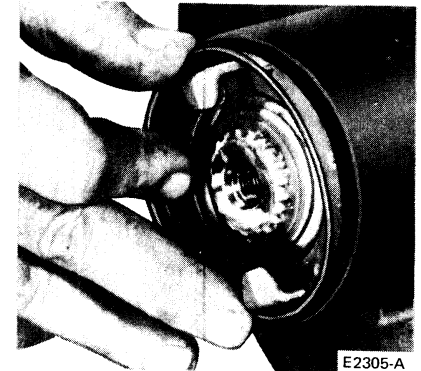

FIG. 12 Installing Internal Snap Ring
7. Install the internal snap ring. Be sure snap ring is fully seated in the snap ring groove of the hub (Fig. 12).